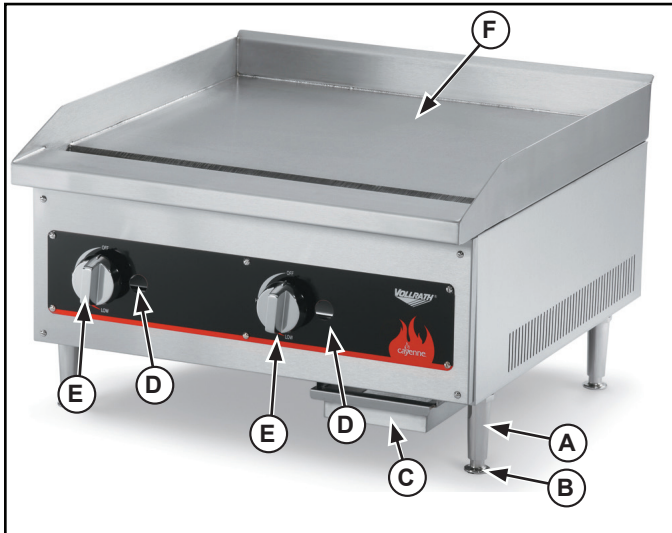

Figure 1. Features and Controls.
5. Install the four (4) legs (A) and feet (B) onto the equipment. See Figure 1.
2. Turn off all gas control knobs (E). See Figure 1.
4. The pilot burner must be lit at the end of the tube. Hold an ignition source through the pilot light hole (D) in the front panel at the pilot tube. When the flame is established remove ignition source.